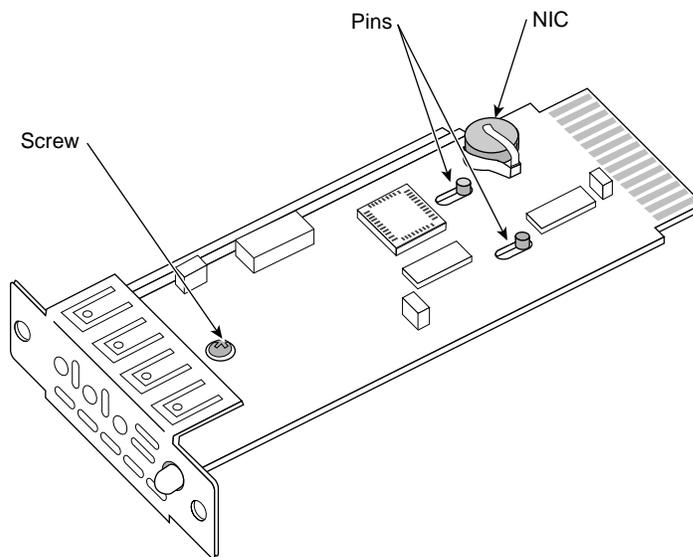

Figure 5-19 Removing the Module System Controller Board From Its Carrier
6. Remove the system controller board from its carrier; it is secured by a screw and two pins, as shown in Figure 5-19.
2. Position the replacement controller board over the pins in the carrier; grasping the board by its sides, slide it so that the pins lock, making sure that the LED and button go through the proper holes. Screw in the reserved screw (shown in Figure 5-19).